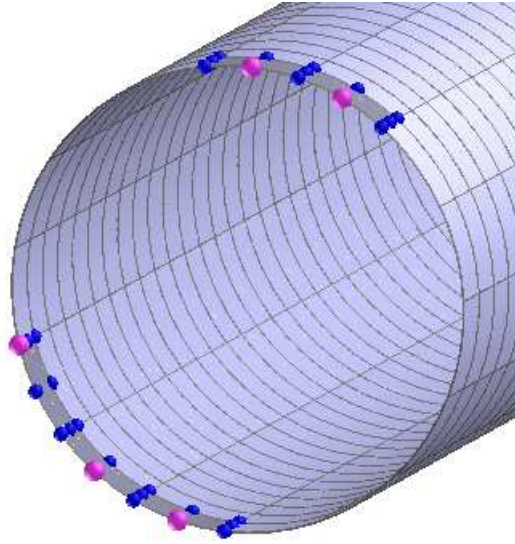

Figure 5.29: Choose Nodes for Creating Seams.
- Choose the nodes in the path of the seam to be created. To select a node: Left-click on the node with the *shift-key* held down. Note: You should only select nodes on the corners of the elements, not mid-side nodes. Once three or more nodes are selected the seam connecting these nodes is drawn if *Coustyx* finds a valid path. Seams are constructed based on the shortest path identified by *Coustyx* while connecting all the selected nodes. It may appear that a seam is not being drawn, if *Coustyx* cannot find a closed path. However, as more nodes are selected in a valid closed path, the seam will be drawn. Only the last selected node can be unselected without disturbing the rest of the node list in the seam. If a node from the seam is arbitrarily unselected, there will be problem in finding the correct closed path. (Figure 5.29)